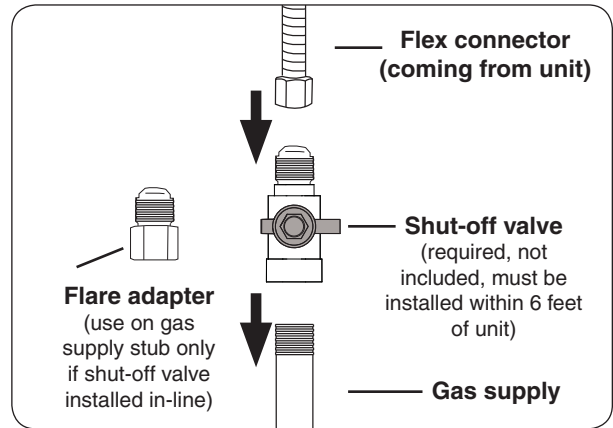

Fig. 13-1 Connecting to a gas line
- Connect the flex connector to the shut-off valve (see Fig. 13-1). Tighten securely.
- Install the supplied flare adapter to the gas supply using a pipe joint compound resistant to all gasses (see Fig. 13-1). Tighten securely.
- Connect the flex connector to the flare adapter (see Fig. 13-1). Tighten securely.